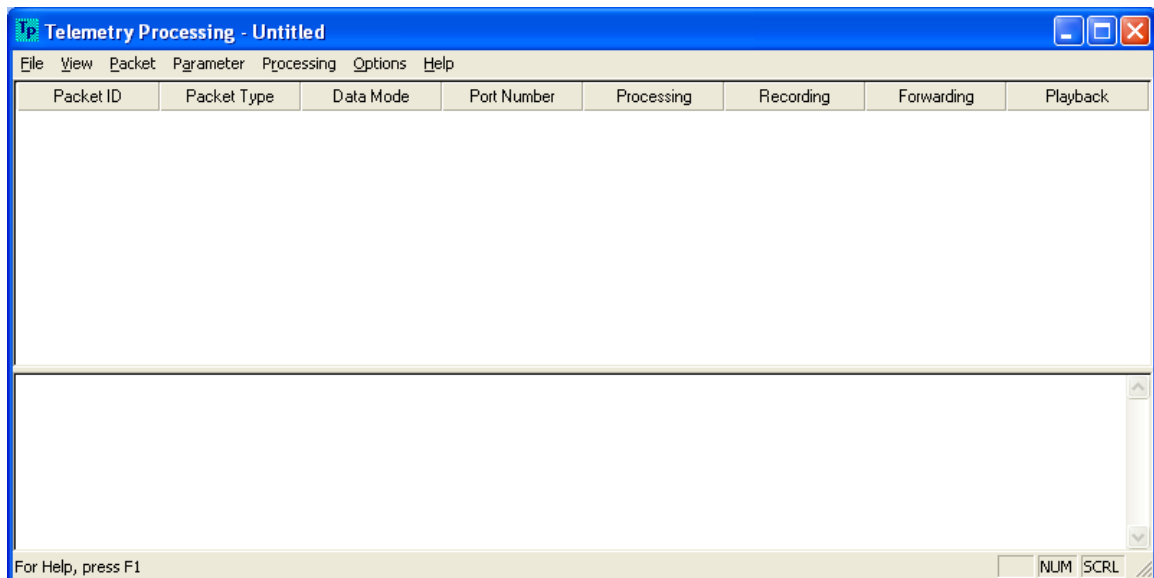

Figure 9 Telemetry Processing Main Window
1. You can start the Telemetry Processing application by using the Window's **Start** menu. Go to the Window's **Start** menu, select **Programs**, select **TReK**, and then select **Telemetry Processing**. (Note: If you selected a Program Folder name other than **TReK** during installation, then that name will appear on the Start menu instead of TReK). The **Telemetry Processing** main window as shown in Figure 9 will appear on your screen.